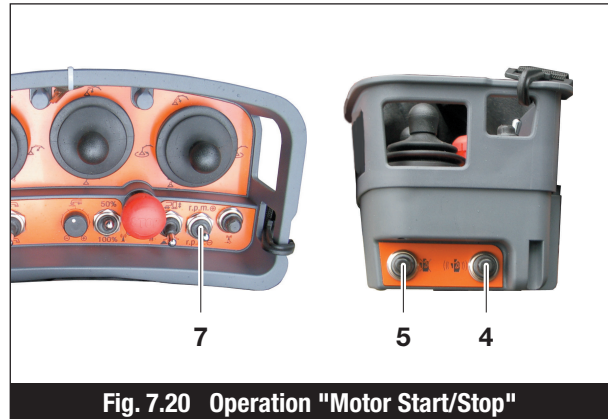
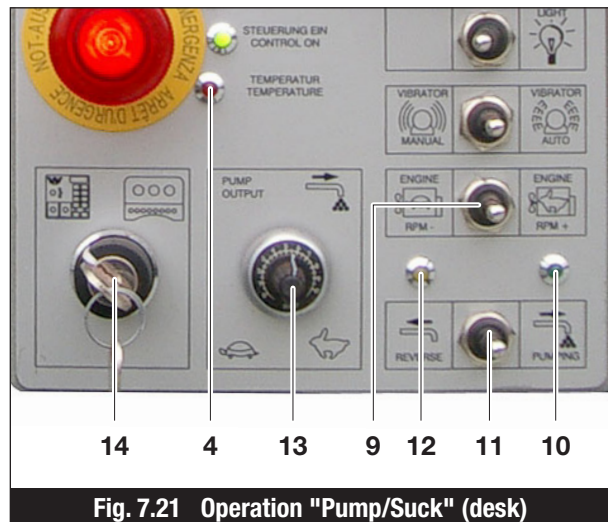

Fig. 7.20 Operation "Motor Start/Stop"
Fig. 7.21 Operation "Pump/Suck" (desk)
The vehicle engine can be started from the remote control pendant using the push button (Item 4, Fig. 7.20). This can only be done if the key switch (Item 14, Fig. 7.6) on the control panel desk is set to "Remote Control".
Pressing the push button (Item 5, Fig. 7.20) stops the vehicle engine, and inhibits its restart for approx. 10 sec.
Pressing the rocker switch (Item 7, Fig. 7.20 or Item 9, Fig. 7.21) brings the vehicle engine from idling to full speed within 10 sec.
The operating mode selection switch (Item 14, Fig. 7.21) must be set to "Desk". The rocker switch (Item 11, Fig. 7.21) selects "Pump" or "Suck". For confirmation one of the two indicator lamps (Item 10 or 12, Fig. 7.21) will light.
The stroke rate depends on the setting of the stroke rate potentiometer (Item 13, Fig. 7.21) and the engine speed.
If the hydraulic oil temperature exceeds 80 °C, the pump function is stopped and the indicator lamp (Item 4, Fig. 7.21) on the control panel desk will light. Sucking the concrete back remains available. The hydraulic system must be cooled down as quickly as possible by appropriate means (see section 7.6.4).
The rocker switch (Item 12, Fig. 7.21) on the remote control pendant is pre-set to “Pump” or “Suck”. Select “Pump” or “Suck” using the rocker switch (Item 13, Fig. 7.21).
- Set the key switch (Item 14, Fig. 7.21) to position “Desk” or “Remote Control”
- Set the key switch (Item 14, Fig. 7.21) to position “Desk” or “Remote control”
- Switch on the “Pump/Suck” function using rocker switch (Item 11, Fig. 7.21) or rocker switch (Item 13, Fig. 7.22)